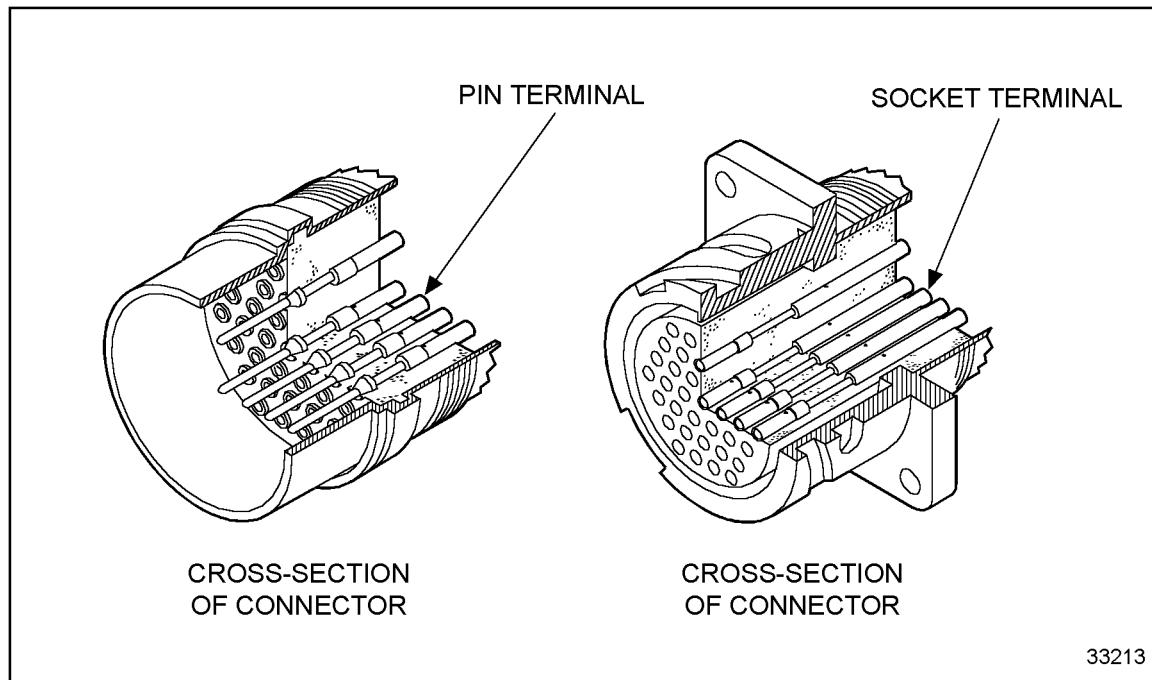

Figure 8-29 Connector Cross-section with Pin and Socket Terminals
3. On the mating face of the connector, insert the tool over the pin terminal or into the socket terminal until the tool stops; see Figure 8-29.